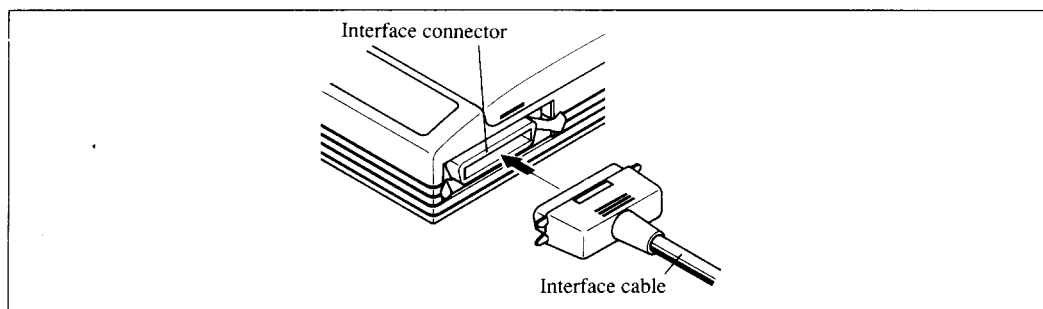

Figure 2-9. Connecting the interface cable.
3. Connect the interface cable to the printer as shown in Figure 2-9.